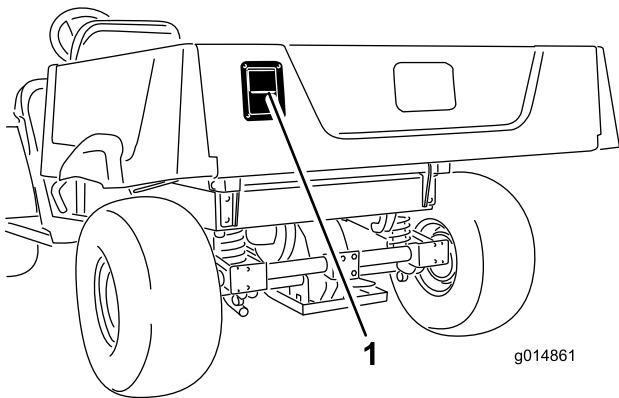

Figure 19
- To open the tailgate, pull outward and lift the latch up, then slowly lower the tailgate (Figure 19).